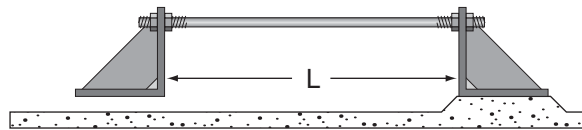

Figure 15-1. Stay Rod
Figure 15-1 illustrates a stay rod rigidly attached to a bracket on each end—one bracket is rigidly mounted, the other is unattached, thus allowing the rod to expand and contract freely. As the temperature rises or drops, the length of the rod will increase or decrease respectively. The change in length (ΔL) is proportional to the original length (L), the change in temperature (ΔT), and the coefficient of linear expansion (α) which is a characteristic of the rod material.